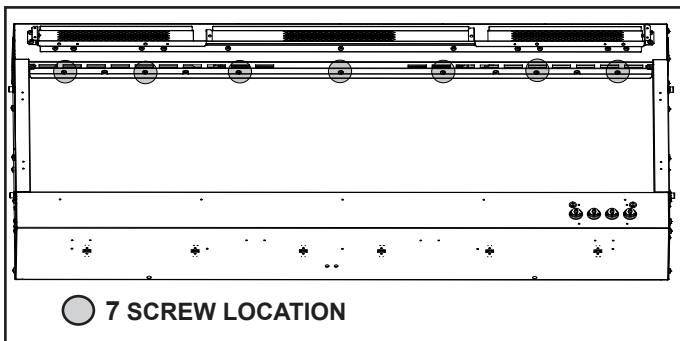

Figure 12. Bracket Screw Location
4. Remove seven (7) Phillips screws from the bracket. Remove the bracket. Set aside. See Figure 12.